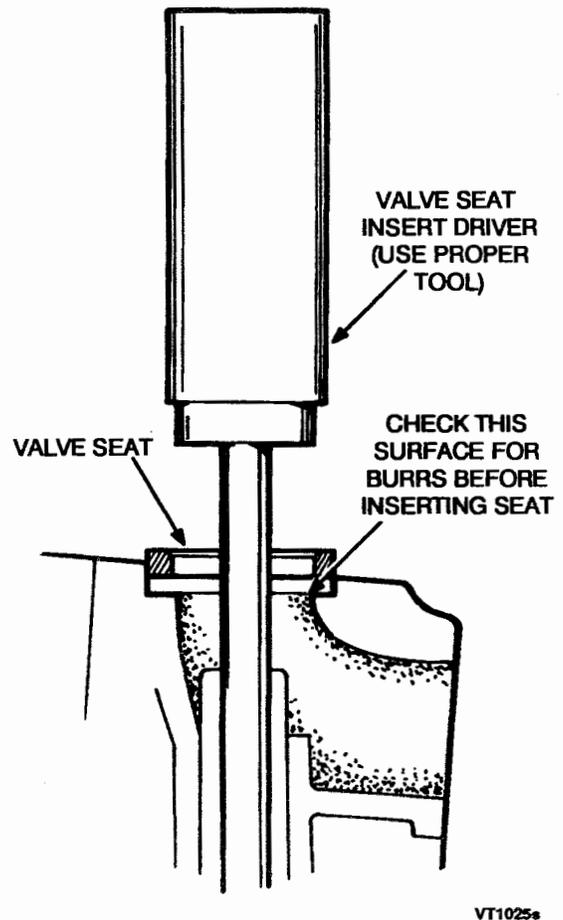

FIGURE 9-13. INSERTING NEW VALVE SEAT
2. Insert the pilot of the driver into the valve guide hole in the cylinder block. Quickly drive the valve seat insert in, so that the insert goes evenly to the bottom of the recess in the cylinder block. Make certain that the valve seat insert rests solidly on the bottom of the recess all the way around its circumference (Figure 9-13).